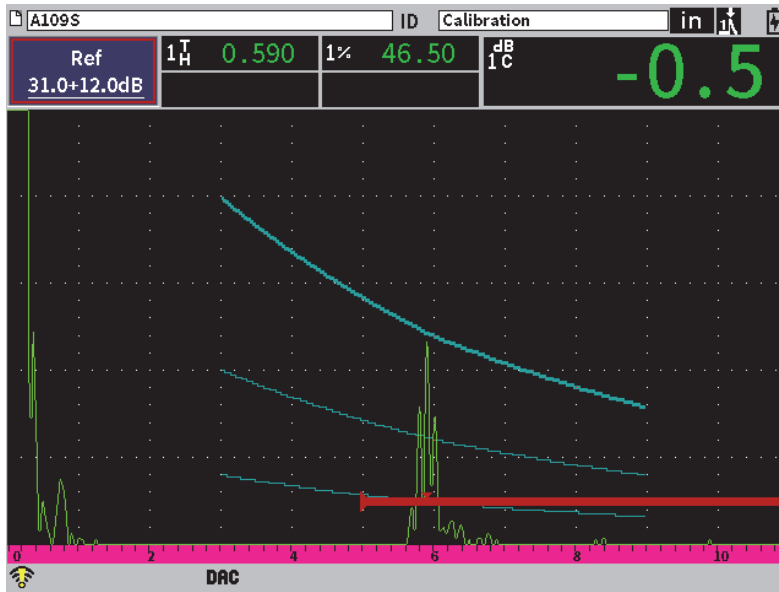

Figure 11-6 Completed DAC curve
9. Repeat steps 6, 7, and 8 until you are finished building your curve (see Figure 11-6 on page 160).